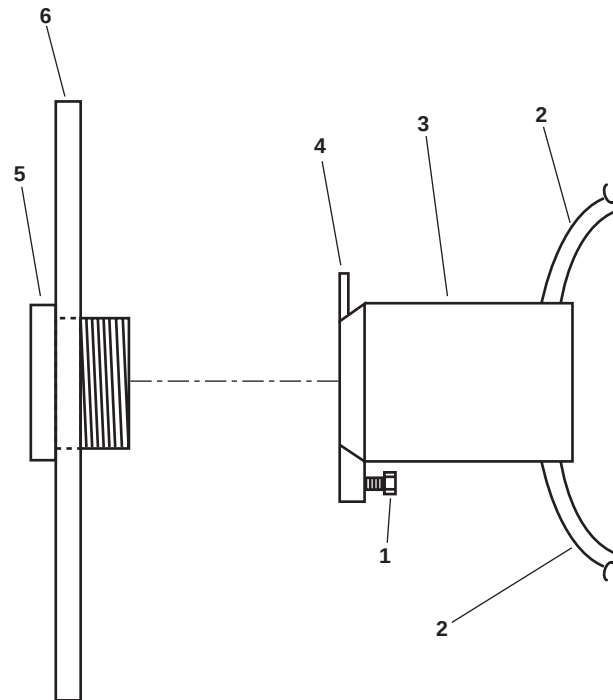

Figure 13. Pilothouse Alarm Panel Pushbutton Replacement
4. Loosen, but do not remove, the tension screw (figure 13, item 1).
5. Label and disconnect the wiring (figure 13, item 2) from the pushbutton contact block (figure 13, item 3).
5. Pull OUT on the locking tab (figure 13, item 4) and separate the contact block (figure 13, item 3) from the operator (figure 13, item 5). Remove the operator from the pilothouse alarm panel (figure 13, item 6).
1. Position the operator (figure 13, item 5) in the pilothouse alarm panel (figure 13, item 6).
2. Place the contact block (figure 13, item 3) over the operator (figure 13, item 5) and jiggle it into position. Push IN on the lock tab (figure 13, item 4) and secure the contact block to the operator.
3. Snug the tension screw (figure 13, item 1).
4. Connect the wiring (figure 13, item 2) to the contact block (figure 13, item 3) and remove the labels installed during removal.